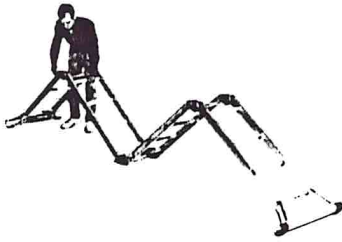

FIGURE 2.
- 2) Unlock middle hinges, then extend other rail section as shown in figure 2. Lock the two outside hinges.